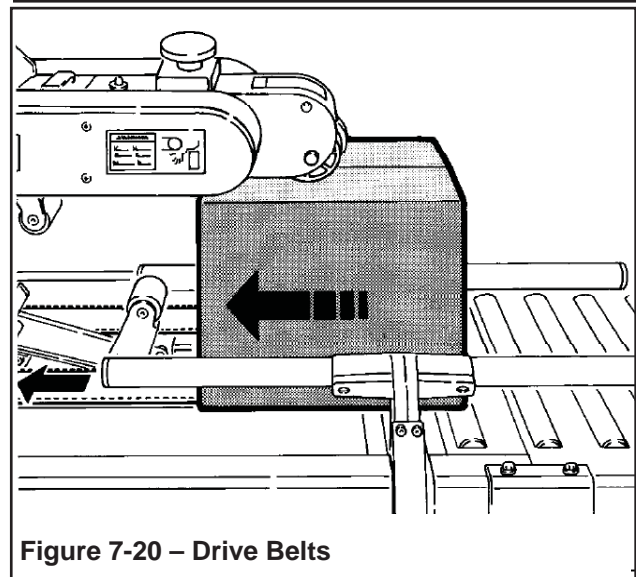

Figure 7-20 – Drive Belts
3. Once the box is pushed under the upper taping head, the upper drive assembly raising switch is released causing the upper drive assembly to descend onto the box top, as shown in **Figure 7-20**, allowing the drive belts to convey the box through the upper and lower taping heads for application of the tape seals.